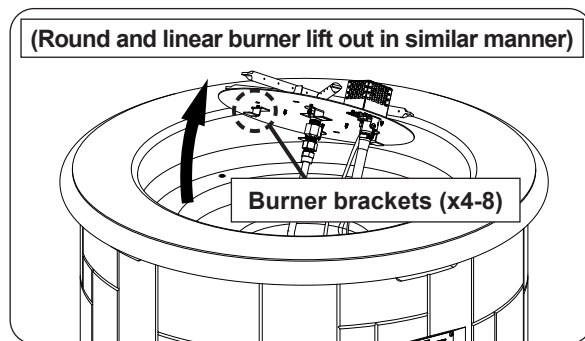

Fig. 51-1 Gain access to interior
1. The burner will need to be partially removed. Remove all media. Use a $\frac{5}{16}$ " nut driver to partially unfasten the 4-8 screws found on the burner assembly. Then carefully lift out the burner and set it off to the side. See Fig 51-1.